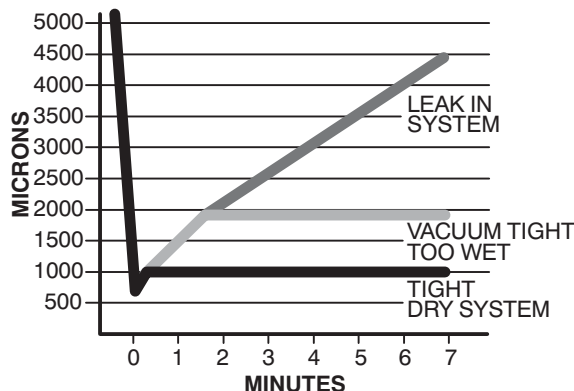

Fig. 29 — Deep Vacuum Graph
7. Evacuate using either the deep vacuum or the triple evacuation method (see Fig. 29 and 30).
The deep vacuum method requires a vacuum pump capable of pulling a vacuum of 500 microns and a vacuum gauge capable of accurately measuring this vacuum depth. The deep vacuum method is the most positive way of assuring a system is free of air and liquid water (see Fig. 29).